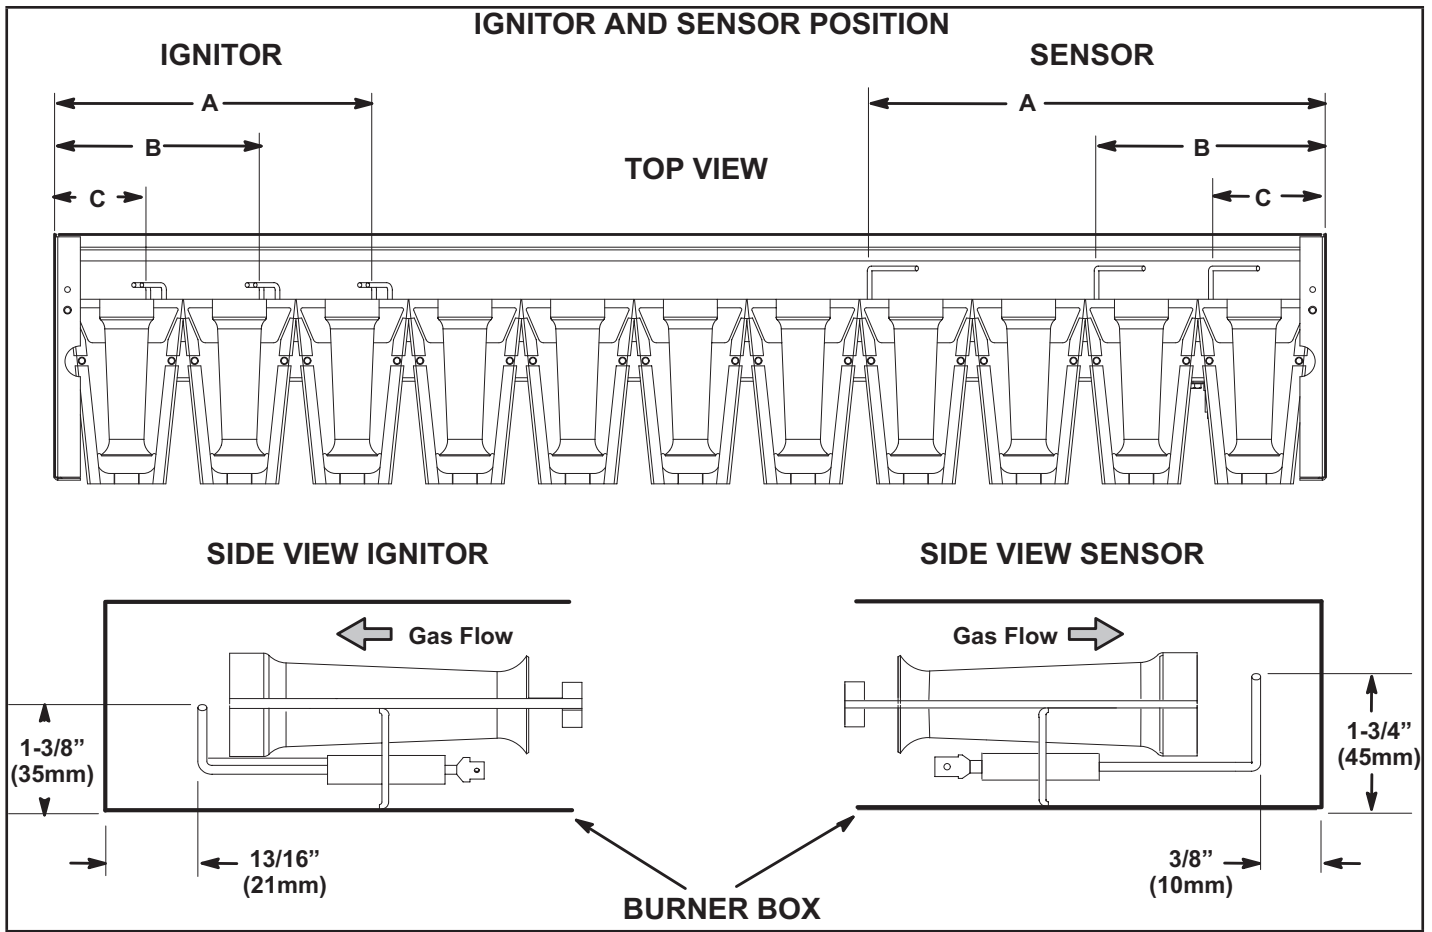

FIGURE 39
- 5 - Check the alignment of the ignitor and the sensor as shown in FIGURE 39 and TABLE 22.